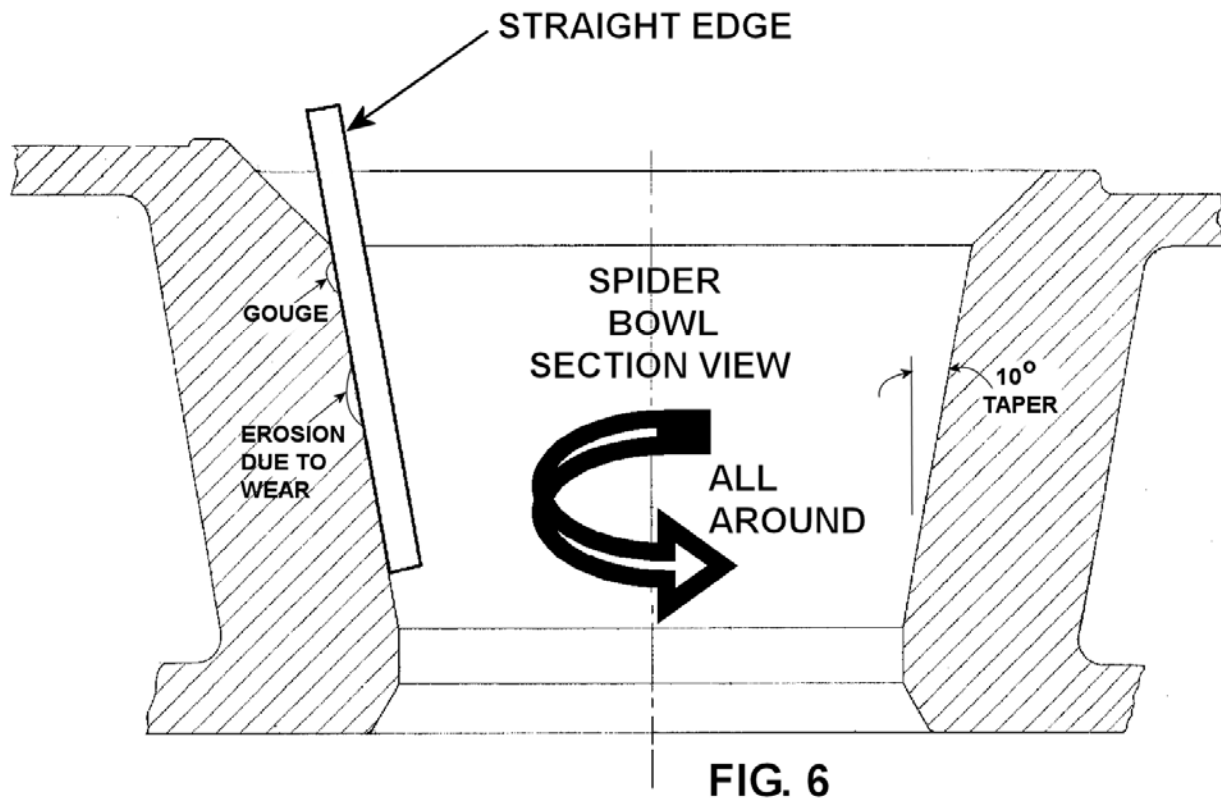

FIG. 6
1. Visually examine the spider bowl for any mechanical cuts or gouges that would create an irregular surface and interfere with the slips setting properly in the tapered bowl (Fig 6). Depending on the size and/or extent, these areas may be polished out to remove any high spots that would prevent the slips from setting properly. Verify correction by setting the slips as described above in number five.